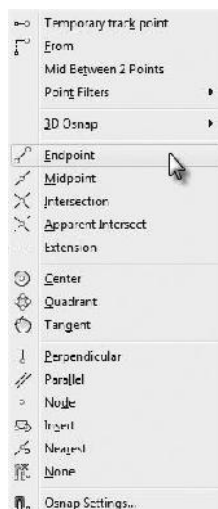

FIGURE 4.48: Select the Endpoint osnap from the Object Snap context menu.
6. Click the Endpoint option, as shown in Figure 4.48, to activate the Endpoint osnap.